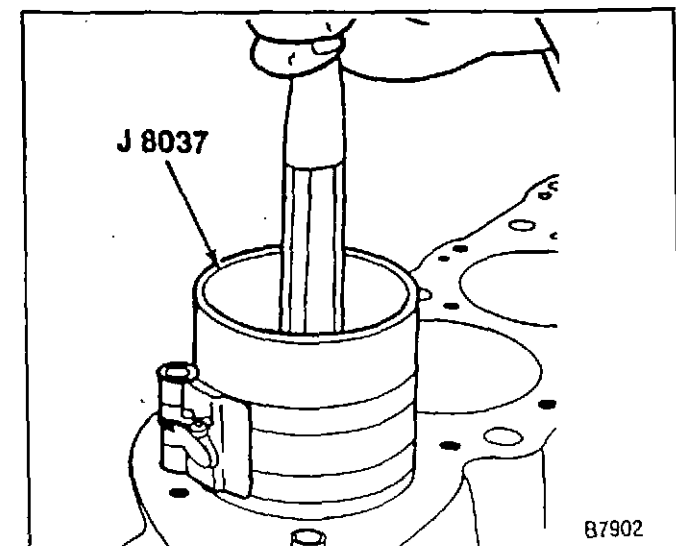

Figure 80—Installing the Piston
- Without disturbing the ring end gap location, install J 8037 over the piston (figure 80).